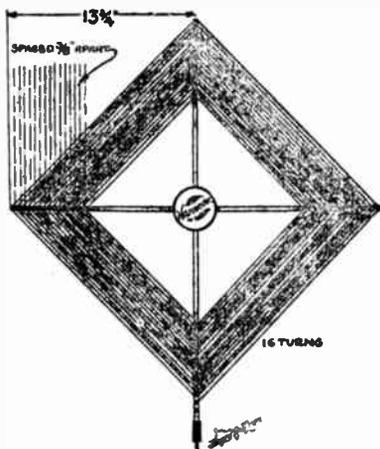

Fig. 3, Part 2
A circuit combining the trigger action of Pierce's circuit with the limiting action of Gill's circuit is due to Major C. E. Prince, and is shown in Fig. 3. This
We will assume that the grid of the first tube (Fig. 3) has been made sufficiently negative by means of the potentiometer and grid bias to render the tube non-conductive. This means that the battery B2 is open circuited. The grid of the second tube is, therefore, to all intents and purposes, free and will have impressed upon it some fairly high and steady value of negative potential, the exact value of which will depend upon the characteristics of the tube in use.
It necessarily follows, then, that in order to obtain maximum results, the normal plate current of the second tube should be as large as possible. It follows also that since at the end of each signal impulse, the grid of the tube will be left with an excessive negative charge upon it means of escape must be provided, so that the grid shall immediately return to a fit state to deal with the next signal impulse. This may be arranged by introducing a grid leak, as shown in Fig. 3.
As a rough guide to requirements, if a circuit similar to Fig. 3 is used without any regeneration or R. F. amplification, the signals delivered by the detector alone must equal in strength what may be termed "loud and clear" headphone reception on a crystal detector.
- One loop aerial (see Fig. 3).